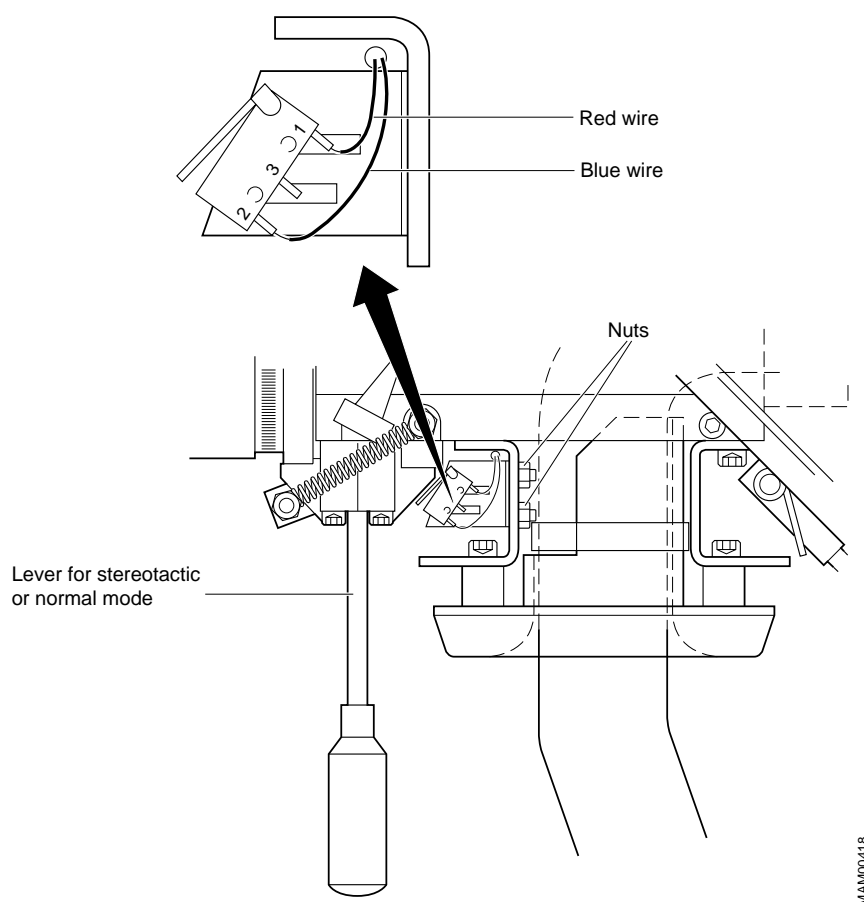

Fig. 1 Changing polarity of the stereo-lever switch
3. For MAMMOMAT 3000 with serial number lower than 2056, remove the shaft covers from the swivel-arm system. Check that the blue wire is connected to pin 2 of the stereo-lever switch S860 (switch for stereotactic or normal mode). If not, it is necessary to change the polarity of the switch by disconnecting the blue wire from pin 3 and soldering it to pin 2, see Fig. 1. To facilitate the soldering, loosen the nuts and take out the switch.
3. Select <Mainmenu>, <Configuration>, <Rotation> and <Calibration>, see Fig. 1